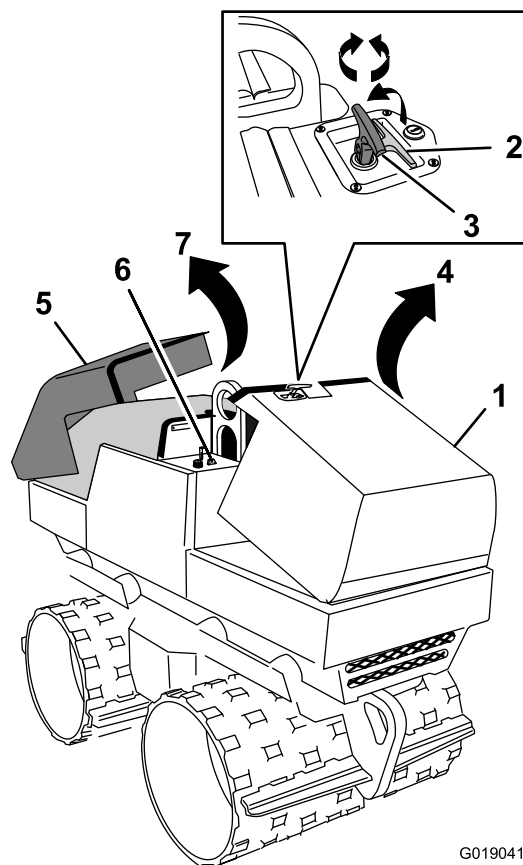

Figure 1
1. At the front hood, pivot the latch handle for the hood to the vertical position (Figure 1).
2. Rotate the latch handle clockwise (Figure 1).
3. Grasp the latch handle tightly and pull up firmly to unseat the hood from the hood clips (Figure 1).
4. Rotate the hood up (Figure 1).
2. Pull up firmly on the hood to unseat it from the hood clips (Figure 1).
3. Rotate the hood up (Figure 1).
2. Rotate the hood down (Figure 1).
1. Grasp the latch handle, and rotate the hood down (Figure 1).
3. Rotate the latch handle counterclockwise (Figure 1).
4. Pivot the handle down to the stowed position (Figure 1).